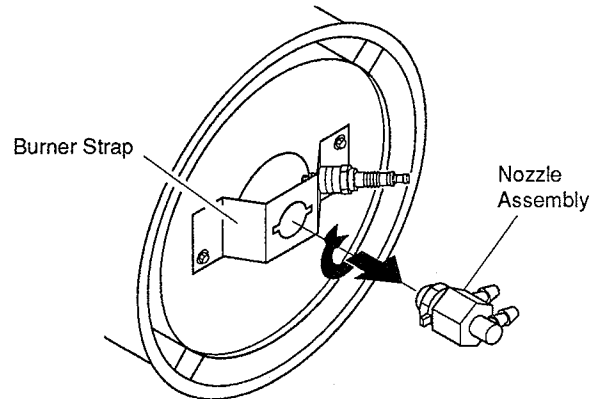

Figure 25 - Removing Nozzle Assembly, Models 2E510D and 2E511C
- Turn nozzle assembly 1/4 turn to left and pull toward motor to remove (see Figure 25).